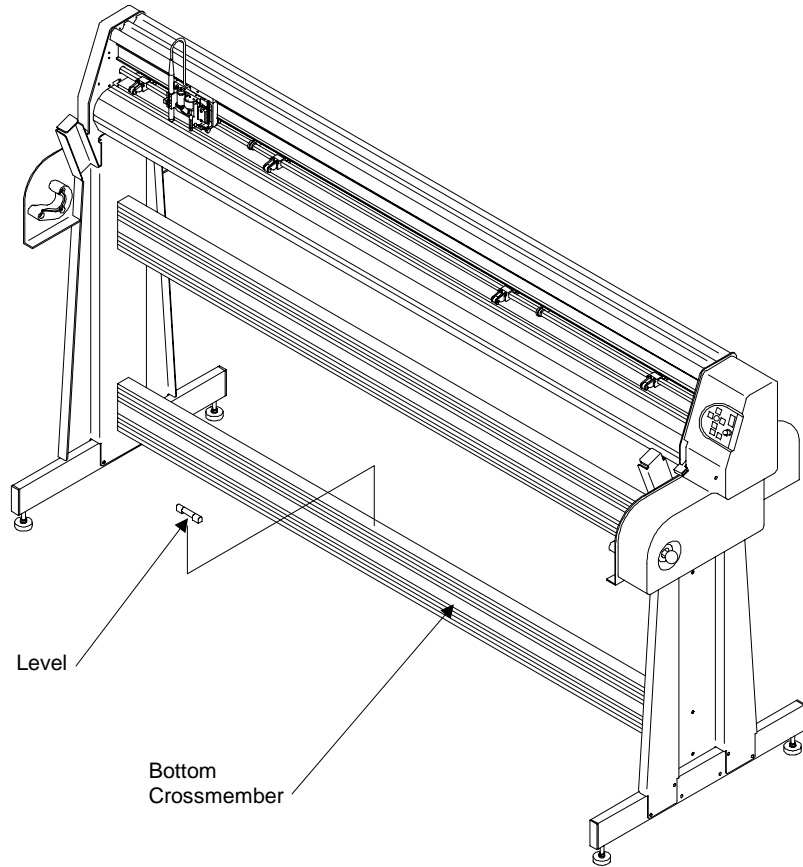

Figure 10. Leveling the Stand
5. Now level the stand by placing the level on the flat surface in the center of the bottom crossmember. (Figure 10)